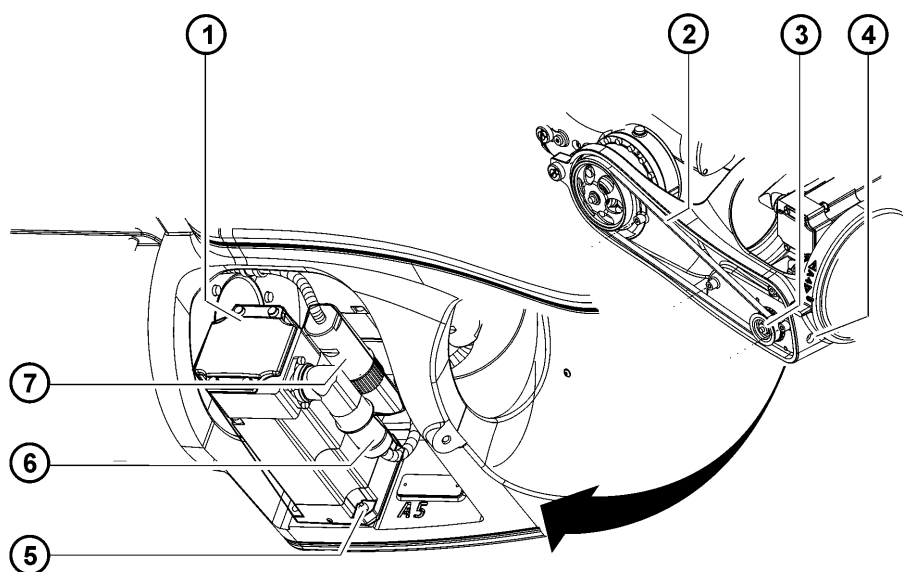

Fig. 11-12: Installation of motor A5
5. Align and insert motor A5 (>>> Fig. 11-12) as shown in the illustration. When inserting toothed belts, fit them on the toothed belt pinions. When fitting the toothed belt, it must be ensured that it meshes properly with the toothed belt pinion.